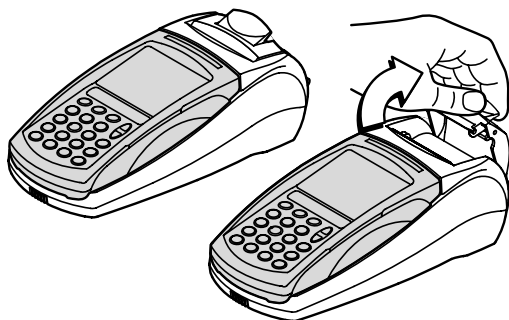

Figure 15-1 Opening the Paper Compartment
4. Lift the paper compartment cover until it is fully open, as illustrated in **Figure 15-1 “Opening the Paper Compartment”** on **page 31**.